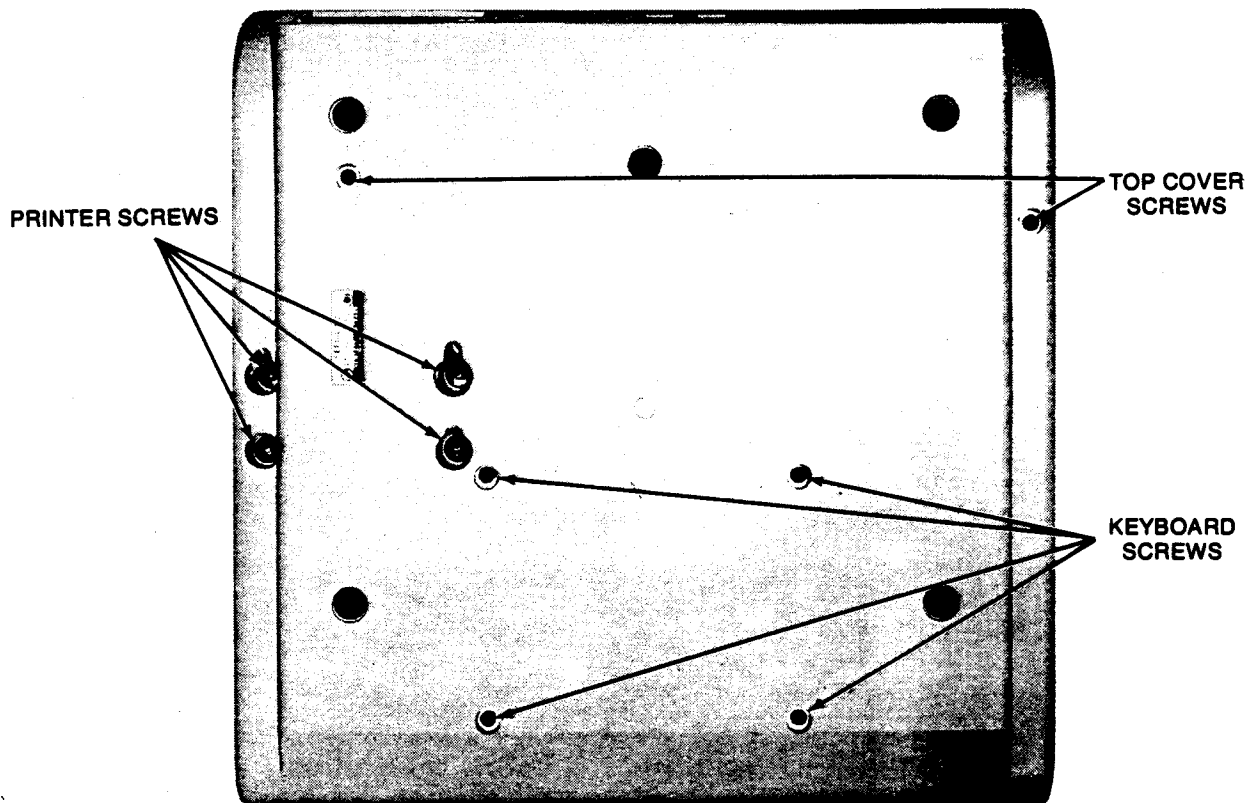

Figure 2-1. Calculator Access Screws
- Remove the access screws, shown in Figure 2-1, that hold the keyboard and top cover to the calculator.
- Then remove the 4 screws that hold the printer to the bottom cover (Figure 2-1).